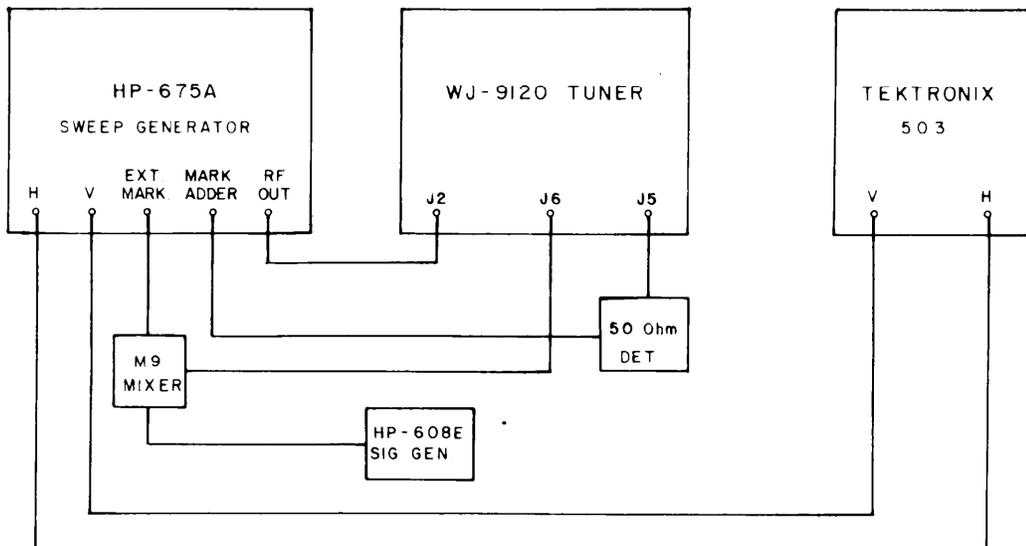

Figure 4-5. Equipment Connection, Gain Measurement
- (1) Connect the test equipment as illustrated in Figure 4-5.